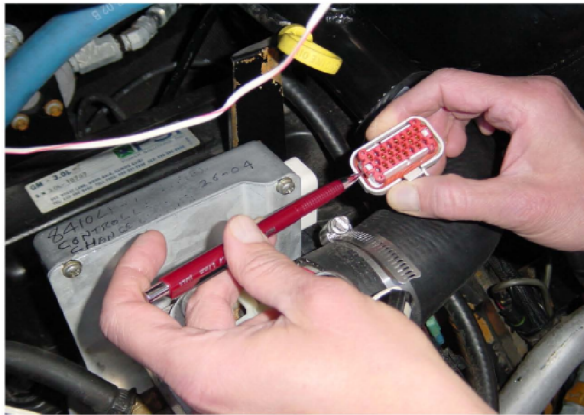

FIG. 2
2. Release, but do not remove, the red locking cover from the white connector to dislodge the connection. Refer to Fig. 2.